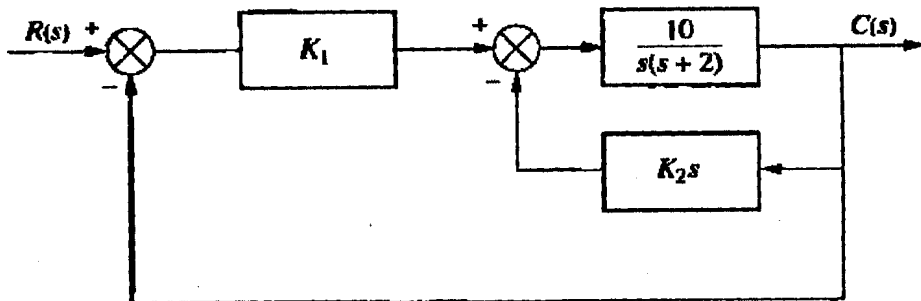

Figure 2
2. Find the value of K_1 and K_2 to yield a peak time of 1 sec. and settling time 2 sec. for the step response of the closed loop system shown in Figure 2.